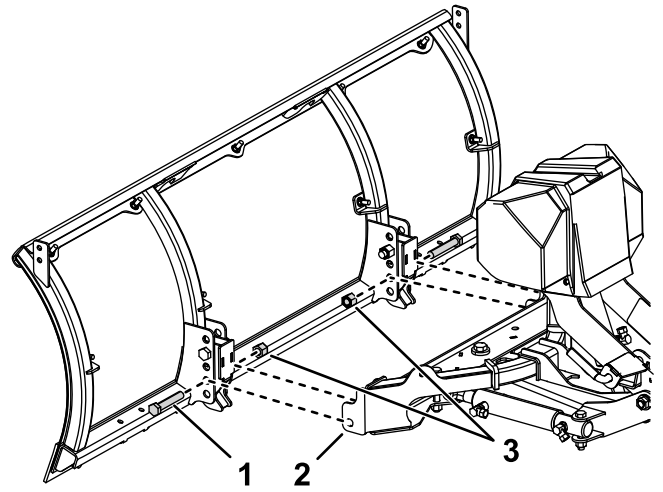

Figure 4
2. Attach the push-frame assembly to the plow blade using 2 hex-head bolts and self-locking nuts as shown in Figure 4.